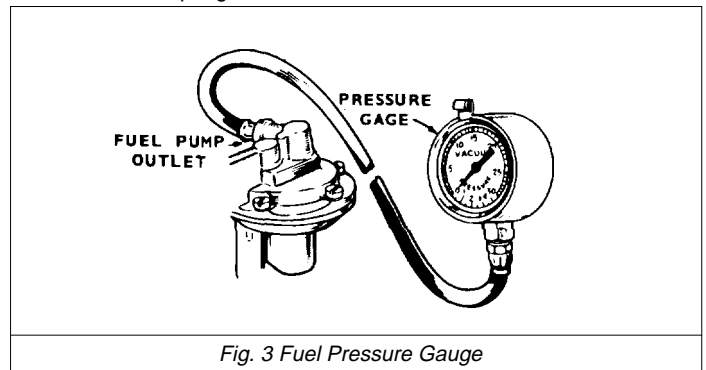

Fig. 3 Fuel Pressure Gauge
Testing: If the transfer pump delivers fuel, test it with a pressure gauge or manometer. Perform these tests before removing the pump from the engine. Remove the pump outlet and install the pressure gauge (Fig. 3). Run engine at governed speed with fuel supplied by gravity feed. The pressure gauge should show 3-1/4 to 4-1/2 psi, with the gauge 16 in. above the fuel pump. A low pressure reading indicates extreme wear in one part or some wear in all parts, and the pump should be overhauled or replaced. If the reading is above maximum, the diaphragm is probably too tight or the diaphragm spring too strong. This can also be caused by fuel seeping under the
- (1) When installing a new diaphragm, soak it in fuel before assembling. Insert the diaphragm spring and soaked diaphragm into the pump body.
- (2) Insert the link and rocker arm into the body and hook it over the diaphragm pull rod. Align the rocker arm with the rocker arm pin hole and drive in the pin. The priming lever must be in its lowest position, as shown in Fig. 3, when installing the rocker arm.
- (3) Compress the rocker spring and install between the body and rocker arm.
- (4) Insert the valve cages, gaskets and valve cover plate. Position the inlet valve with spring showing and the outlet valve with spring in the cover recess (if valves were removed.)
- (5) Assemble the cover to the body with notch marks lined up. Install the screws but do not tighten.
- (6) Push the rocker arm in full stroke and hold in this position to flex the diaphragm.